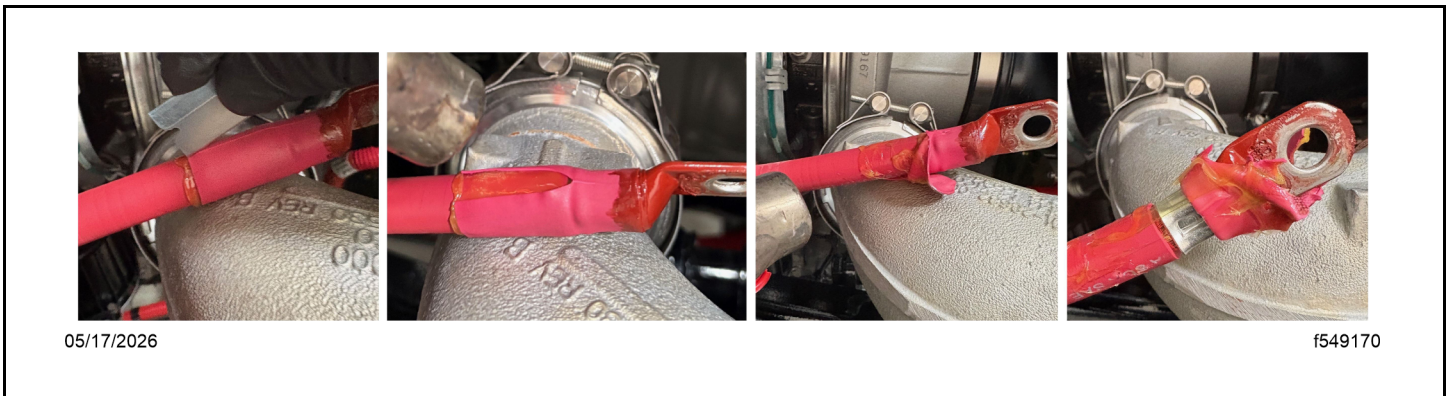

Fig 87, Heat Shrink Removal
- b. Remove the original heat shrink. To do so, heat it, score it, and continue to heat it until the score splits and the adhesive softens. See Fig. Fig. 87.